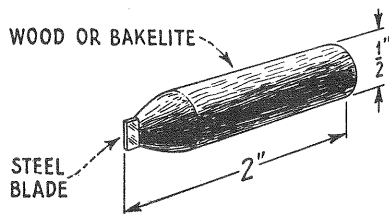

Figure 7—Non-metallic screw driver
A short non-metallic screwdriver. Such a screwdriver is shown in Figure 7 with its maximum dimensions.
- (a) Procure a small non-metallic screwdriver (See Figure 7.)